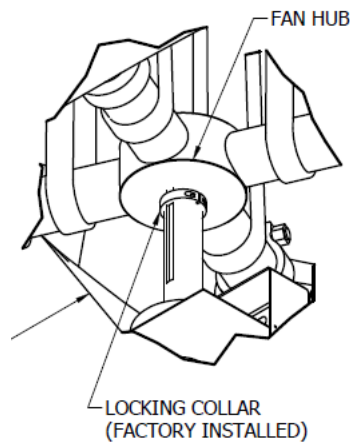

Figure 43: Hub detail
1. Lower the hub and bushing on the shaft until the hub contacts the locking collar per **Figure 43**.
- Tightening the fan hub bushing may cause the fan to lift away from the locking collar. If needed, raise the locking collar to contact the hub and tighten the locking collar screw to 50 ft-lbs (67.79 N-m) per **Figure 43**.